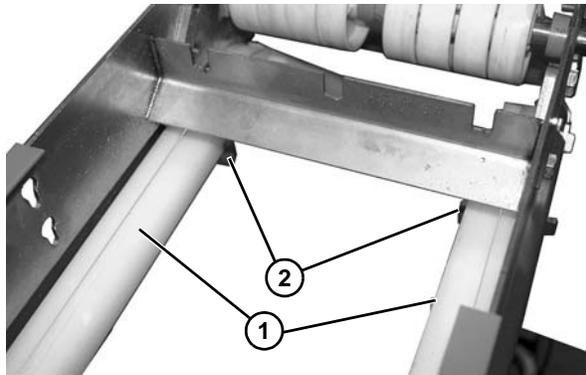

Figure 34
- Install belt return (**Figure 34, item 1**) onto mounting bracket (**Figure 34, item 2**).